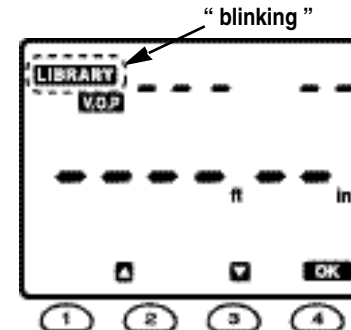

Fig. 3
3. Press the SELECT button then the Meter will display both the LIBRARY symbol (blinking) and the V.O.P symbol (see Fig. 3).